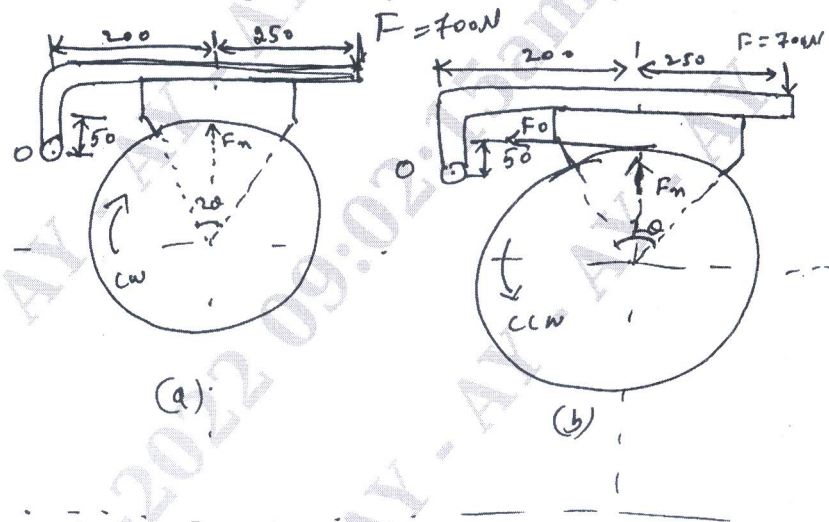

Fig. Q2 (b)
- b. A single block brake shown in Fig. Q2 (b). The drum diameter is 250 mm. The contact angle is  $90^\circ$ . If an operating force of 700 N is applied at the end of the lever and the co-efficient of friction is 0.35 determine the torque that may be substituted by the brake. (10 Marks)